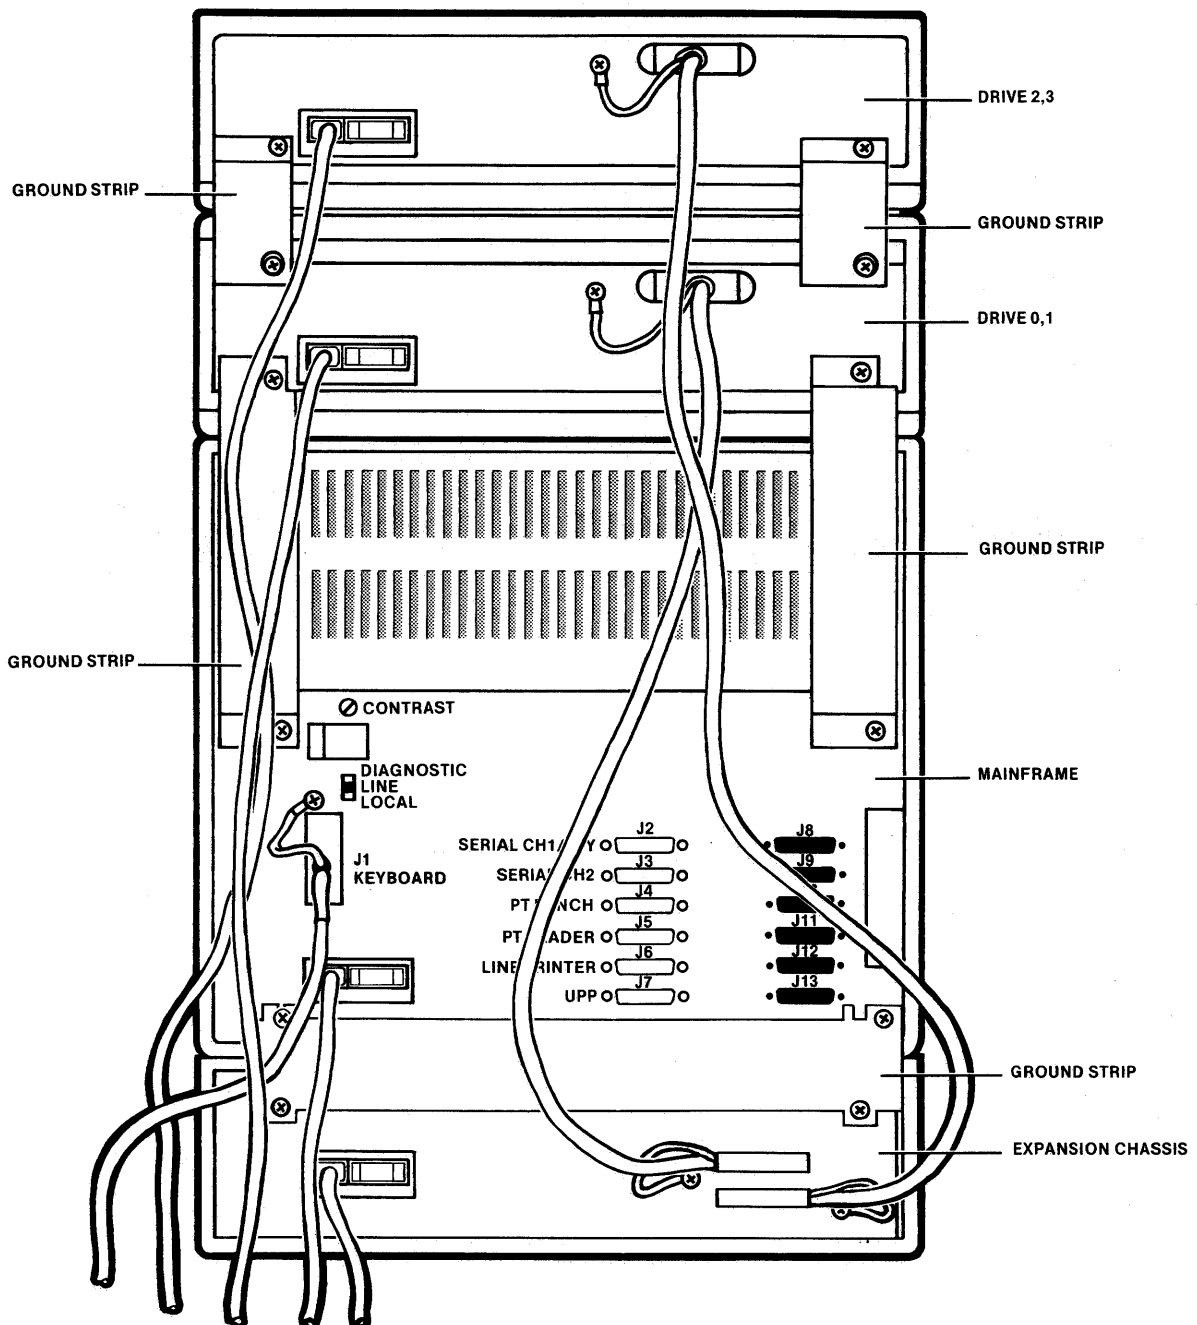

Figure 5-12. Diskette Drive/Expansion Chassis Cabling Details
- x. Reinstall mainframe and expansion chassis front panels. Refer to figure 5-12 and attach power cords and peripheral cables to rear panel connectors.
Unpack dual drive(s), drive cable(s), and attaching hardware. Refer to figure 5-12 or 5-13, as appropriate, and proceed as follows:
- h. Place second dual drive (Drive 2, 3) squarely on top of first dual drive. (Refer to figure 5-12 or 5-13, as appropriate.)